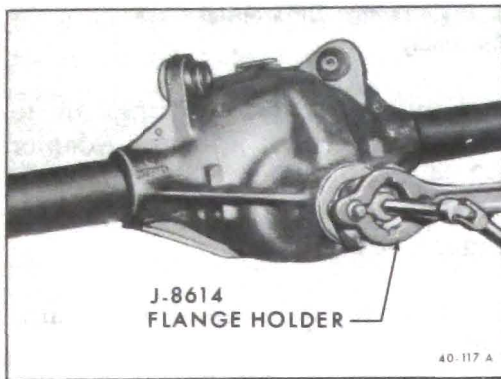

Figure 40-96 - Removing Pinion Nut
2. Install Holder J-8614-01 on flange by using two 5/16-18x2" bolts with flat washers. Remove pinion nut and washer. See Figure 40-96.